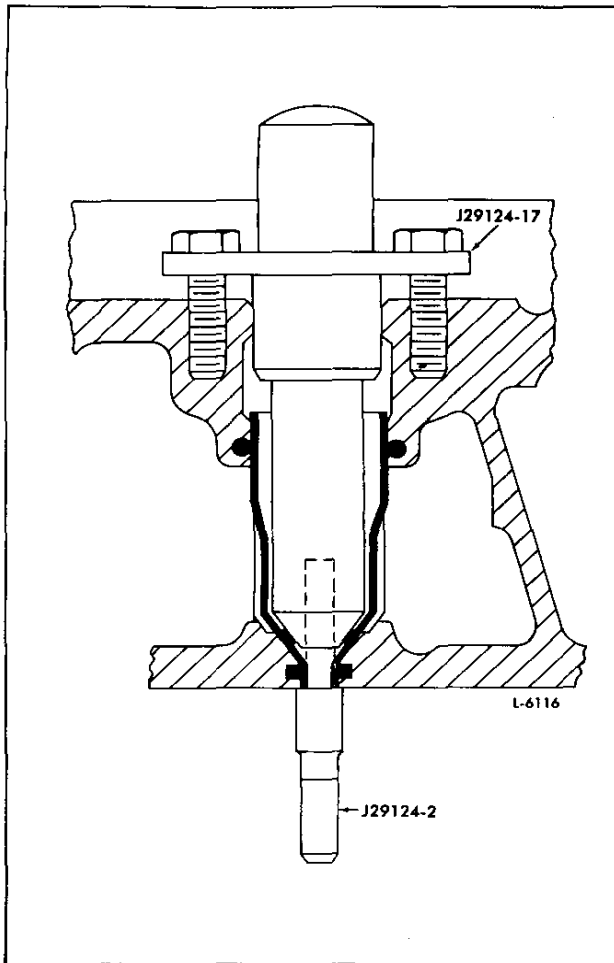

Fig. 2 - Installing Injector Tube
2. Install the injector tube on the injector tube installer J 29124-17 (Fig. 2). Next, insert the pilot J 29124-2 through the small opening of the injector tube. Thread pilot J 29124-2 into the injector tube installer J 29124-17. Install the injector tube installer, injector tube, and pilot into the injector bore.
3. Tap the injector tube and tool assemblies into the injector bore and carefully drive into place using a brass hammer or fiber mallet as shown in Fig. 2.